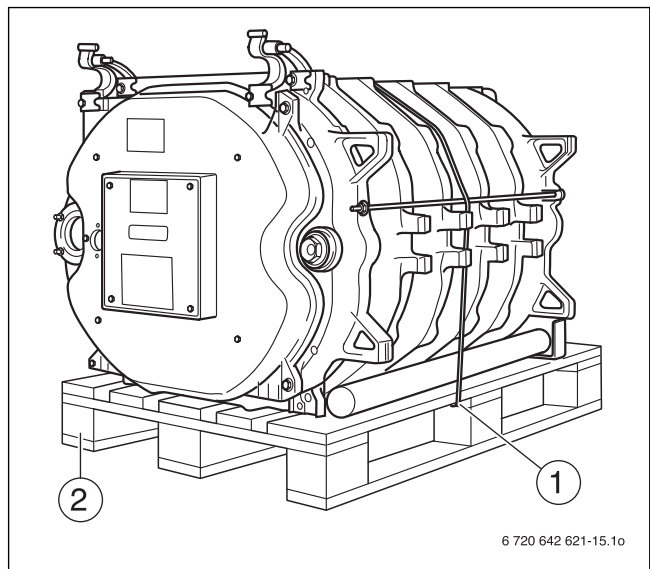

Fig. 20 Boiler block on pallet
- ▶ Cut the retaining band (Fig. 20, [1]).
- ▶ Remove the pallet prior to positioning the boiler block (Fig. 20, [2]).